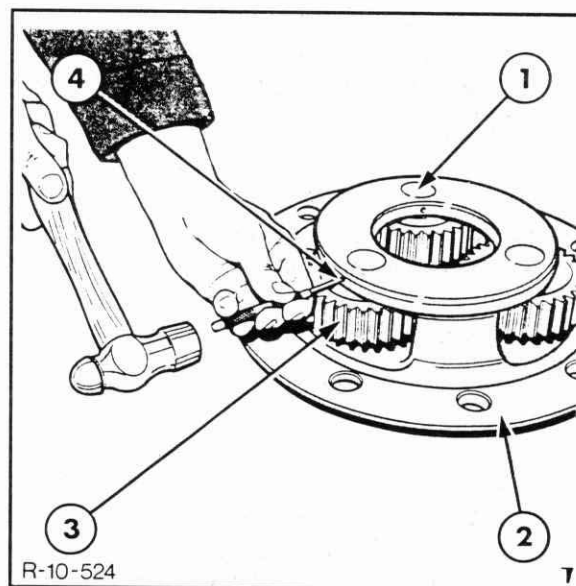

Figure 7-77
2. Drive out the three roll pins, Figure 7-77, securing each shaft to the carrier. Push each shaft outward, out of the carrier, collecting from each shaft two thrust washers, the planetary gear, and the thirty bearing rollers.